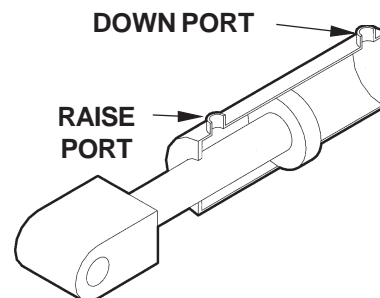

FIG. 42-3
3. Check the Hydraulic Cylinder. With the Platform on the ground, remove the hydraulic line from the Down Port of the Cylinder (FIG. 42-3). Raise the Platform even with the bed. Allow pump motor to run two seconds more while you watch for hydraulic fluid at the Down Port. A few drops of hydraulic fluid escaping the Down Port is normal; however, if it streams from the Down Port, Piston Seals are worn. Replace Seals.